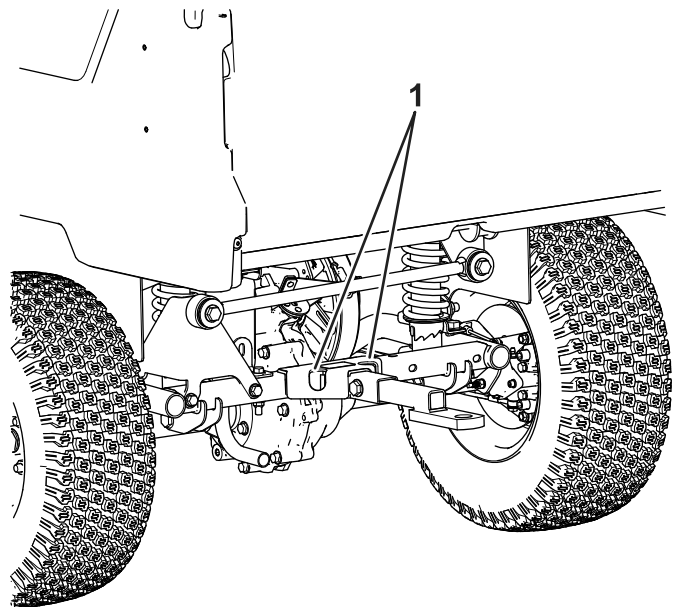
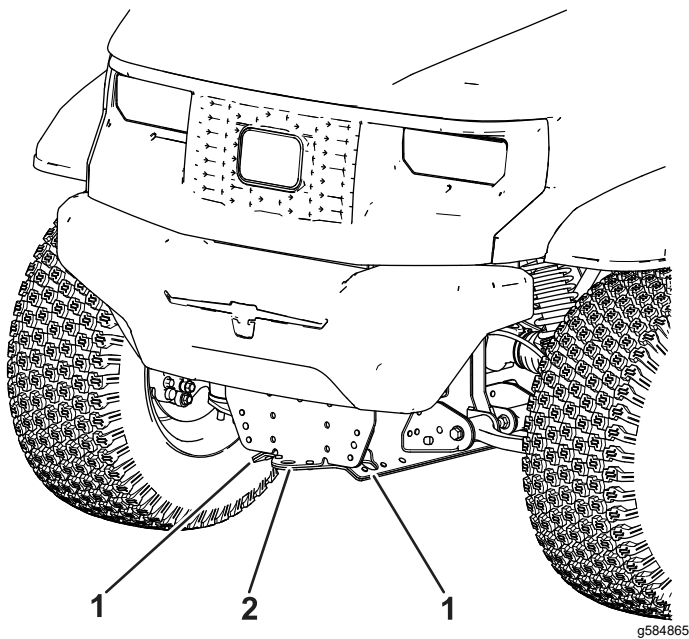
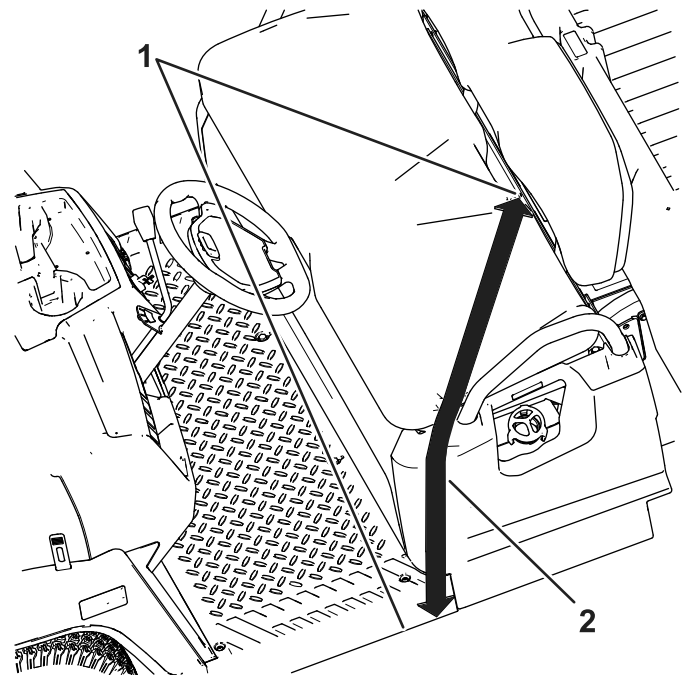

Figure 24
Figure 23
Figure 25
- Tie the machine down securely (Figure 23), (Figure 24), and (Figure 25).
2. Affix a tow line to the tongue at the front of the machine frame (Figure 23).